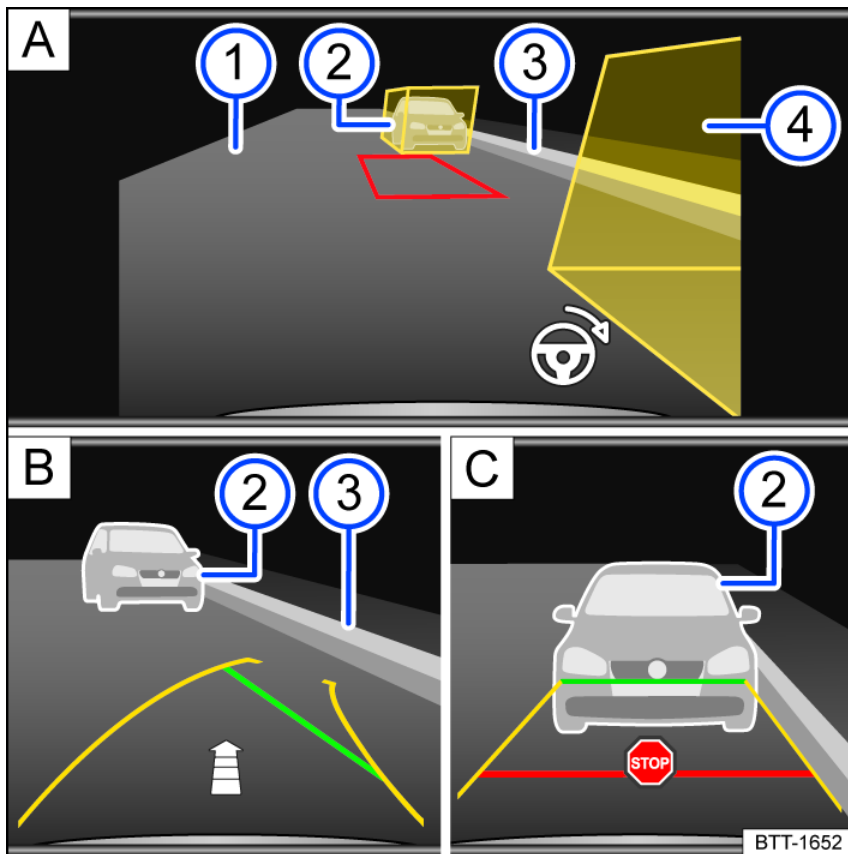

Fig. 144 Infotainment system: Parking parallel to the road.
① Road surface.
② Obstacle or assisting box.
③ Side boundary of the parking space.
④ Obstacle or assisting box.
4. Position the vehicle at a distance of approximately 1 m (3 ft) parallel to the parking row. The yellow assisting boxes must cover the obstacles fig. 144 A ②. The area in between must be free of obstacles.
5. Select the reverse gear. A red frame represents the target position of your vehicle fig. 144 A.
6. Turn the steering wheel until the red frame moves between the assisting boxes and becomes green fig. 144 A. Hold the steering wheel in this position while driving in reverse.
7. Drive slowly in reverse until the  stop symbol appears or the green line aligns with the side boundary of the parking space fig. 144 C. An fig. 144 B arrow indicates the remaining distance to be driven based on the number of displayed segments.